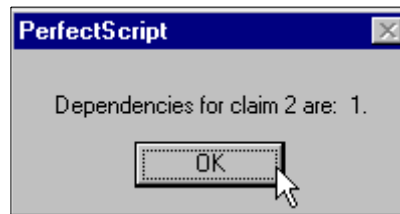

Figure 5-8 Dependencies Message Box
4. A message box appears for each dependent claim. The message box details the dependent claim, and the claim on which it is dependant (see Figure 5-8).